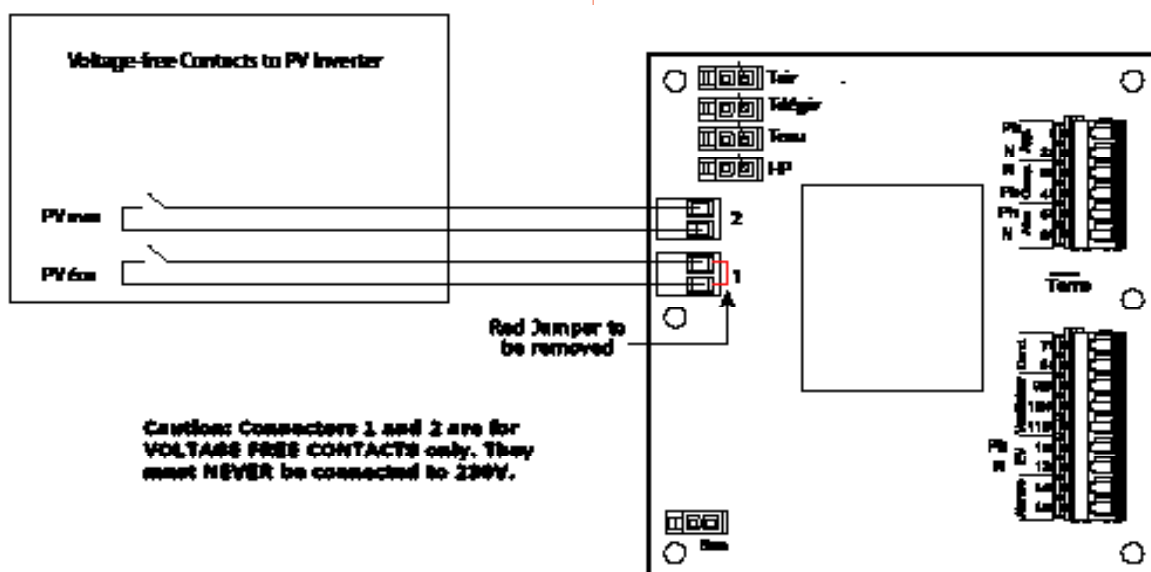

Figure 16: Diagram showing PV connections
- If the PV function regulator has two control contacts, connect them to Entrée 1 and 2 on the electronic board (see Figure 16).